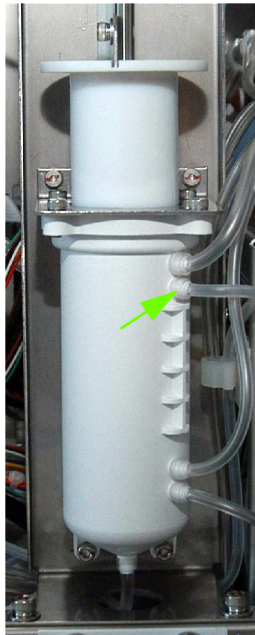

Fig.1: Second inlet
- ◆ Disconnect second inlet from the top and connect the Barflex instead (See "Fig.1: Second inlet, page 2").